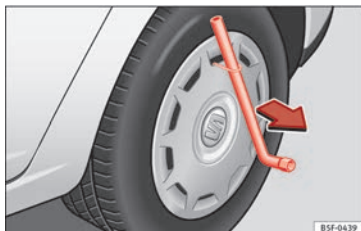

Fig. 156 Changing a wheel: remove the wheel cover.
- Remove the wheel cover using the wire hook » **Fig. 156**.